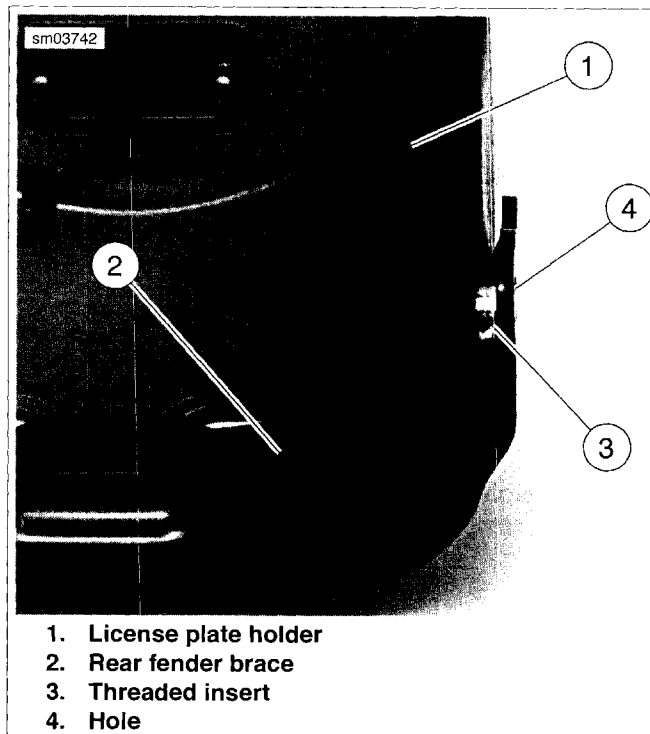

Figure 6-80. License Plate Holder and Rear Fender Brace: XL 883N/XL 1200N (HDI)
5. Install two screws with washers (4) through fender struts, fender, fender brace and into threaded inserts in license plate holder. See Figure 6-80. Make sure license plate holder threaded inserts (3) fit into holes (4) in fender brace (2). Tighten to 132-216 **in-lbs** (14.9-24.4 Nm).